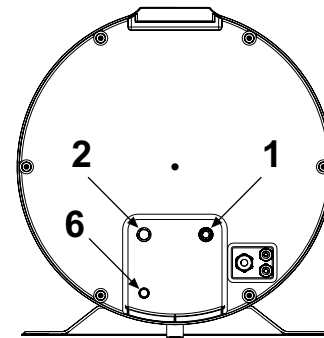

fig. 54
- Connect the cold water supply line and the outlet line to the appropriate connection points (fig. 54).